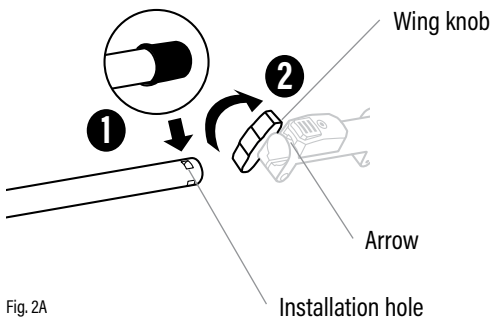

Fig. 2A
1. Remove the tube protection cap before installation (Fig. 2A, 1).
2. Loosen the wing knob (Fig. 2A, 2).